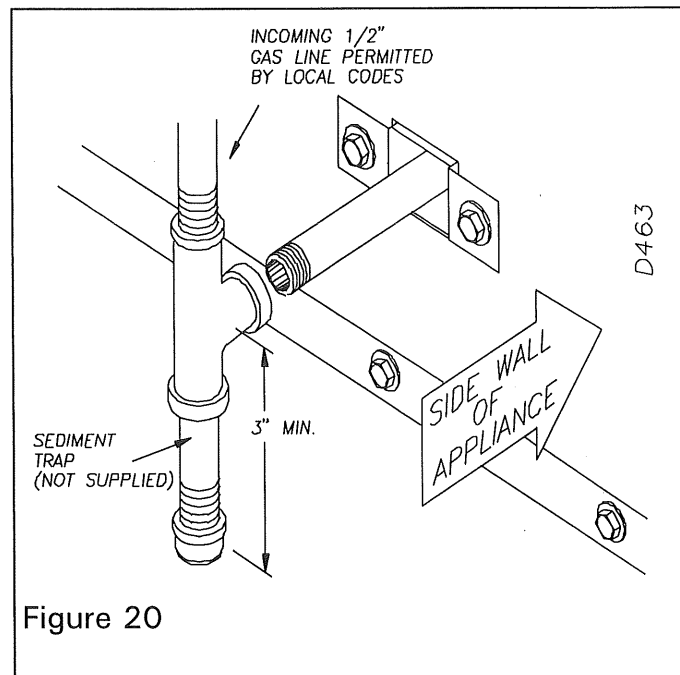

Figure 20
1) Install a **sediment trap** between the incoming gas line and the gas control valve (see **Figure 20**). The sediment trap should extend down a minimum of **3 inches** beyond the center of the pipe.